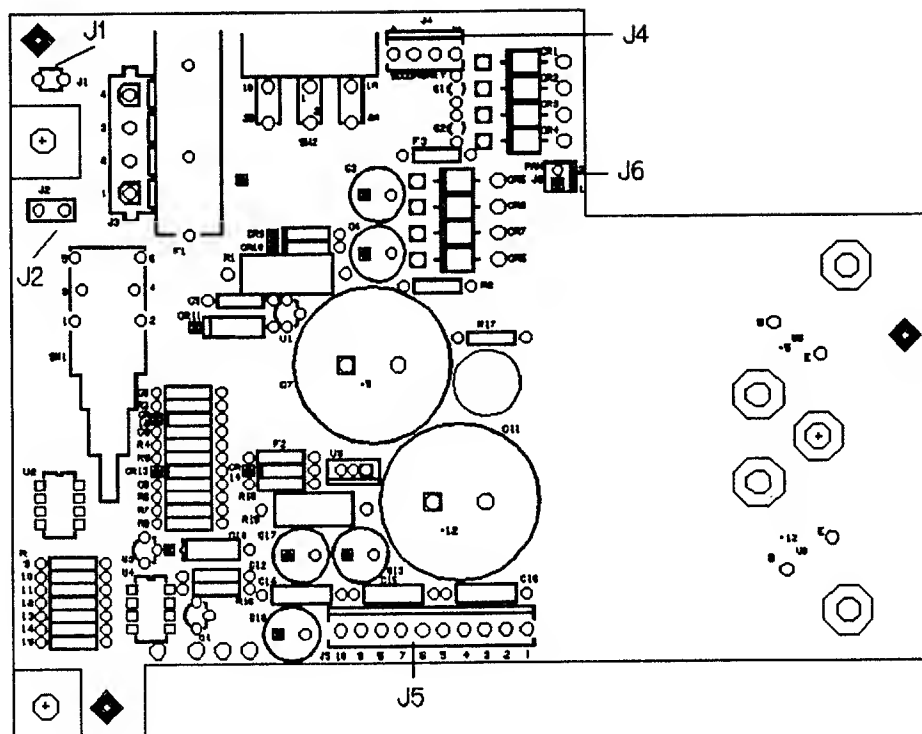

Figure 6-3. Power Supply PCA (A2).
Use figures 6-3 and 6-4 for cable connector locations.
- Remove the three mounting screws. Refer to Figure 6-3 for location (the fasteners with the "+" mark in them)